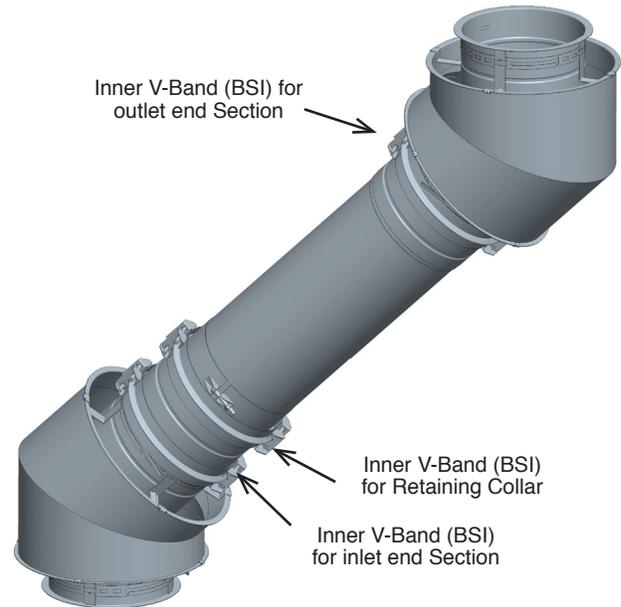

Figure 29 - Step 10-11 - Secure the Retaining Flanged Band
11. Then install the other V-band (BSI) over these flanges (like regular section joint assembly). See **Figure 29**.